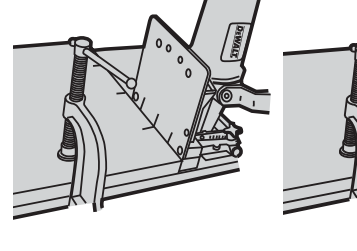

FIG 33
**FREE WARNING LABEL REPLACEMENT:** If your warning labels (Fig. 33) become illegible or are missing, call 1-800-4-DEWALT (1-800-433-9258) for a free replacement.